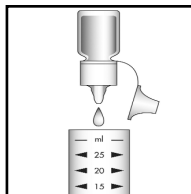

Figure 1
1. Add 5 drops of A-7900 Activator Solution to the empty sample cup (fig 1).